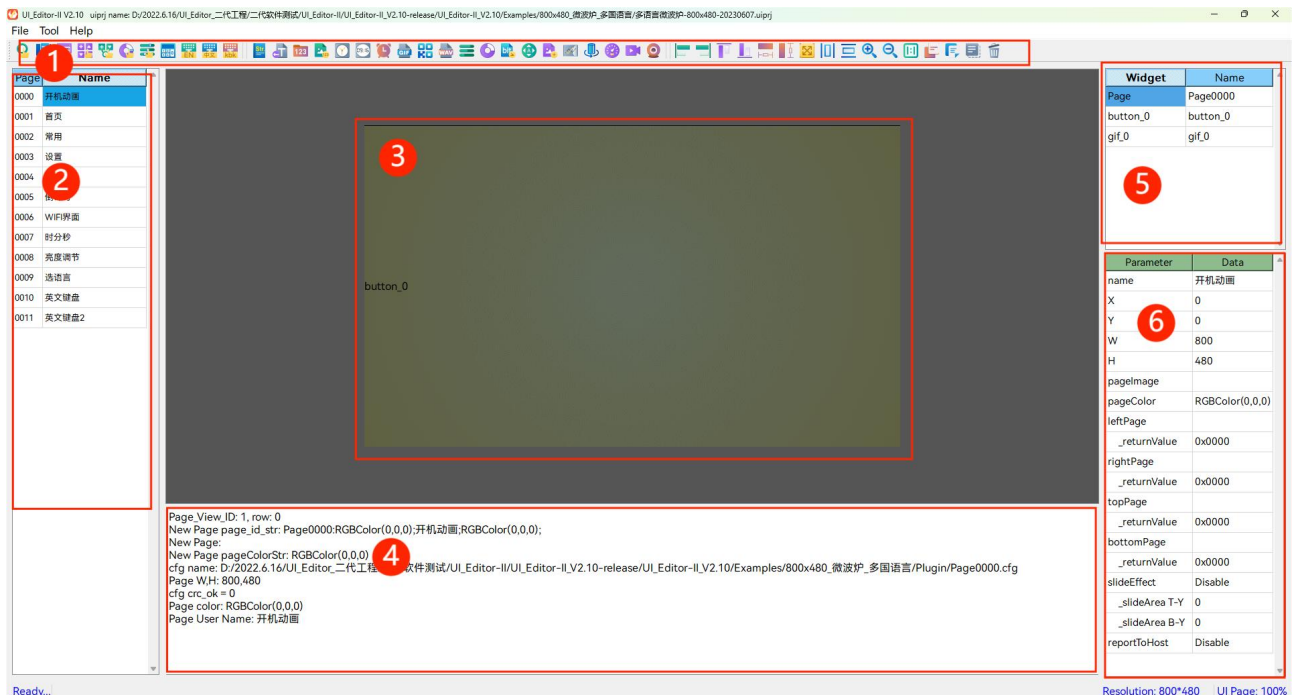

Figure 3-1: Main Screen
Figure 3-1 shows the main screen of UI_Editor-II.
As shown in Figure 3-1, ①, developers may click on the icons to add various widgets, such as button, picture, text, and more. Hover the mouse cursor on an icon, the name of the icon will pop-up. Left click on an icon, the mouse cursor will then be switched to Cross style. Developers may then start to add the designated widget to the editing area, and drag it to adjust its width and height. Widgets may be added continuously as long as the mouse cursor remains Cross style. Right click the mouse on the editing area to exit the selection mode, and the mouse cursor will be switched back to Arrow style.
As shown in Figure 3-1, ②, the left column represents Page ID (unchangeable), and the right column represents the name of the page (user definable). Refer to Page Operation for more detail.
As shown in Figure 3-1, ③, developers may edit (e.g. adding widgets) within the base map.
As shown in Figure 3-1, ④, every operation process will be listed here in a timely manner. Developers may check the processed results in the status window when making bin files.
As shown in Figure 3-1, ⑤, this area lists all the available widgets in the designated page. Click the listed name to quickly locate the desired widget in the page editing window
As shown in Figure 3-1, ⑥, parameters for selected widget can be setup here, including but not limited to name, address, and coordinates etc.